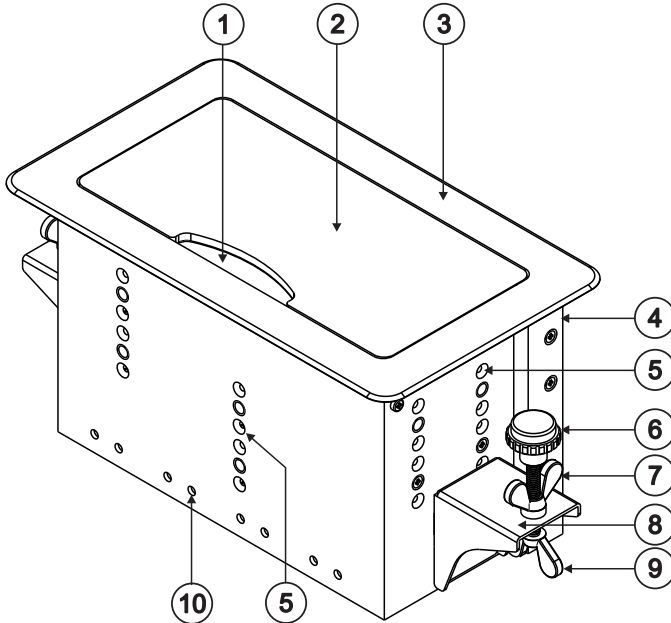

Figure 2: TBUS-10 Table Connection Bus (Top View)
Figure 2 and Table 1 define the unit.
2. Take the support brackets under the table and place them into the support bracket grooves on both sides of the unit (see Figure 2).